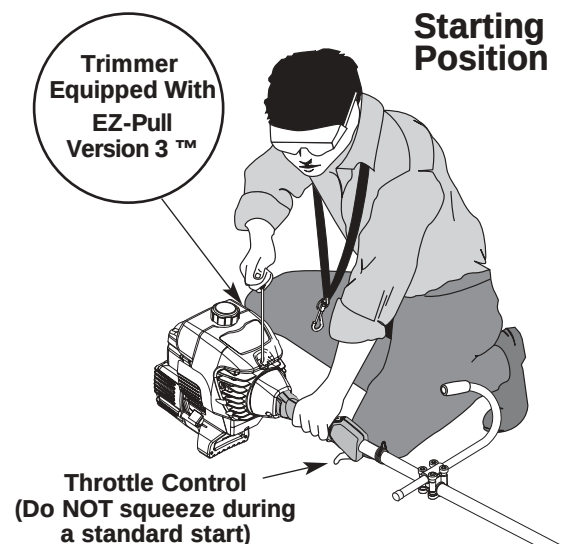

Fig. 18
WARNING: Avoid accidental starting. Make sure you are in the starting position when pulling the starter rope (Fig. 18). To avoid serious injury, the operator and unit must be in a stable position while starting.
4. Crouch in the starting position and **do not squeeze the throttle control** (Fig. 18). Pull the starter rope out with a **controlled and steady motion** until the engine attempts to start. Repeat until the engine starts.